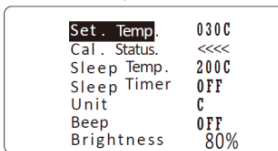

Fig.7
3.3. When Cal. status display "<<<<" (see Fig 7.) · it means "Real Temp." has calibrated and decrease temperature.